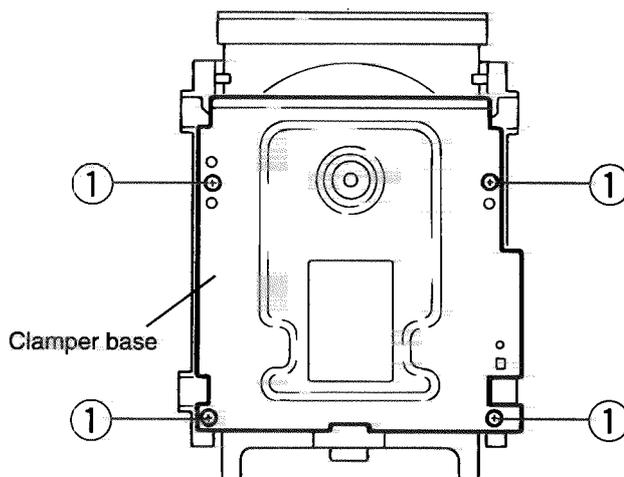

Fig. 1
■ Removing the Clamper Base (See Fig.1)
3. Remove the four screws ① attaching the clamper base.